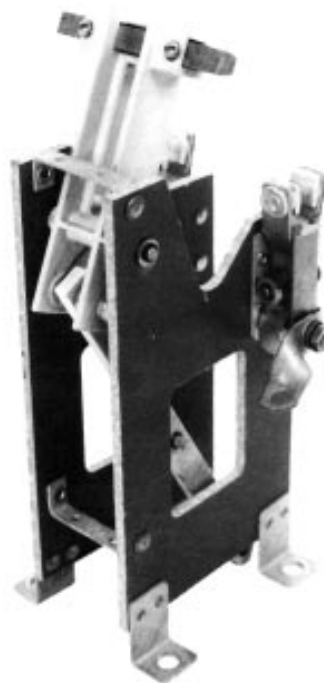

Figure 15.
3. Remove four hex head machine screws with pre-assembled lockwashers that secure the contact structure to the head casting. Contact structure removed from switch is shown in Figure 15.